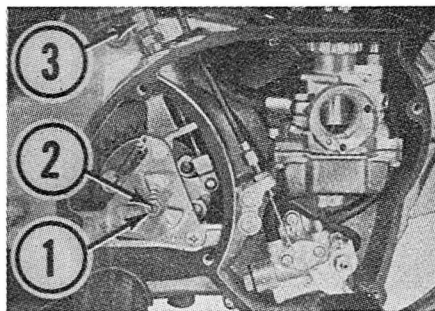

Fig. K2-11—Clutch should be adjusted at screw (1) as described in text. Cable guide (3) adjusts the handle free play.
Fig. K2-10). Adjustment is accomplished by loosening lock nut (1—Fig. K2-11) and turning the adjusting screw (2) in until resistance is felt. Then back the adjusting screw (2) out ¼-turn and tighten lock nut. Adjust the cable guide (3) until hand lever has approximately ⅜-inch play at (A—Fig. K2-10).